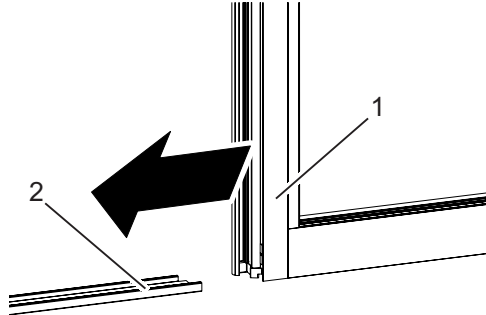

Fig. 15: Fixed panel
5. Move the fixed panel (Fig. 15/1) into the intended position and slide it with the lower edge onto the bottom rail (Fig. 15/2).